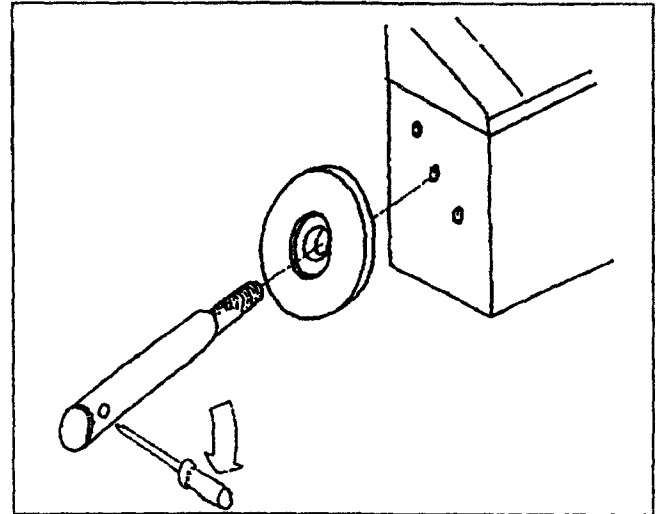

Fig.19
- A. Install the accessories supports (Fig.19). Tighten them firmly.